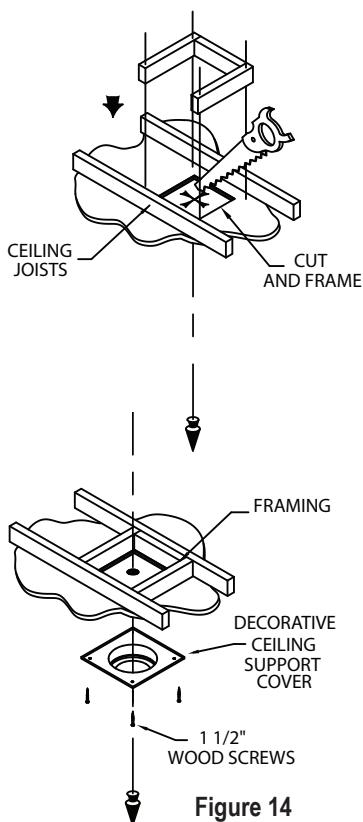

Figure 14
Step 3. To install the Round Ceiling Support/Wall Thimble Cover in a flat ceiling, refer to **Table 1, page 8** and cut a square hole in the ceiling (unless otherwise specified by the appliance manufacturer) centered on the hole drilled in Step 2. Frame the hole as shown (**Fig. 14**).